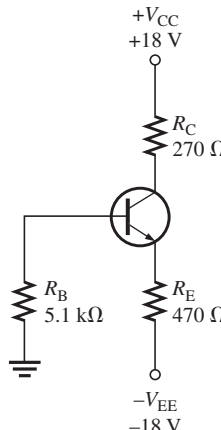

FIGURE 3-73
16. For the emitter-bias circuit in Figure 3-73, determine I_C and V_{CE} .
17. For the circuit in Figure 3-73, determine dc power dissipated in the transistor.
18. Assume the transistor in Figure 3-73 is a 2N3904. Can the power supplies be increased to 24 V without exceeding $P_{D(\max)}$? (Data sheet is Figure 3-25.)
19. Assume that R_C in Figure 3-73 was replaced with a 330 Ω resistor.